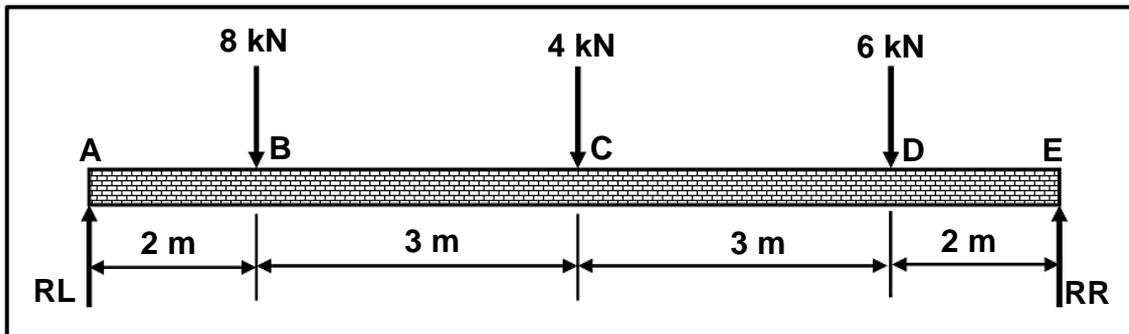

FIGURE 7.2
7.2 FIGURE 7.2 below shows a uniform supported beam that is subjected to three point loads.